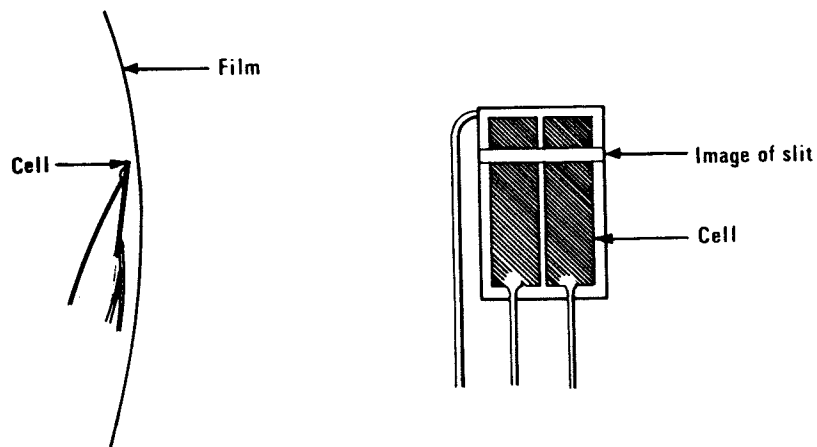

Fig. 2.13 Positioning of Slit Image
- (a) On the Optical Preamp card ②① (inside the Processor unit) turn all output and bypass controls fully clockwise, and all high frequency controls fully counterclockwise.
- (c) On the projector to be aligned first, switch on the exciter lamp supply and move the cell towards the film until it almost touches the film plane. If the cell is too far from the film, crosstalk will result. If too near, film and cell damage can occur. An optimum separation is 1 mm (about 0.05 in) from cell to film. Image of slit should be near the top of the cell (Fig. 2.13). Avoid the top edge insulation on the cell. Brackets are factory designed to suit most projectors. However, it may be necessary to adapt the nearest standard bracket to suit a particular projector.